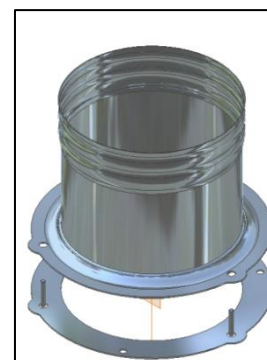

Figure 3-8: 6CON Liner Connector
The Astra 38 fireplace can be connected to a masonry chimney that complies with current national and municipal building codes. A 6 inch chimney liner that complies with ULC S635 M2000 (Canada) or UL 1777 (US) standards must be installed within the existing masonry chimney. Note that the 6CON connector (manufactured by SUPREME FIREPLACES INC.) must be installed to connect the prefabricated chimney to the liner (6CON sold separately), unless otherwise specified by the manufacturer of the prefabricated chimney being used. Refer to figure 3-8.